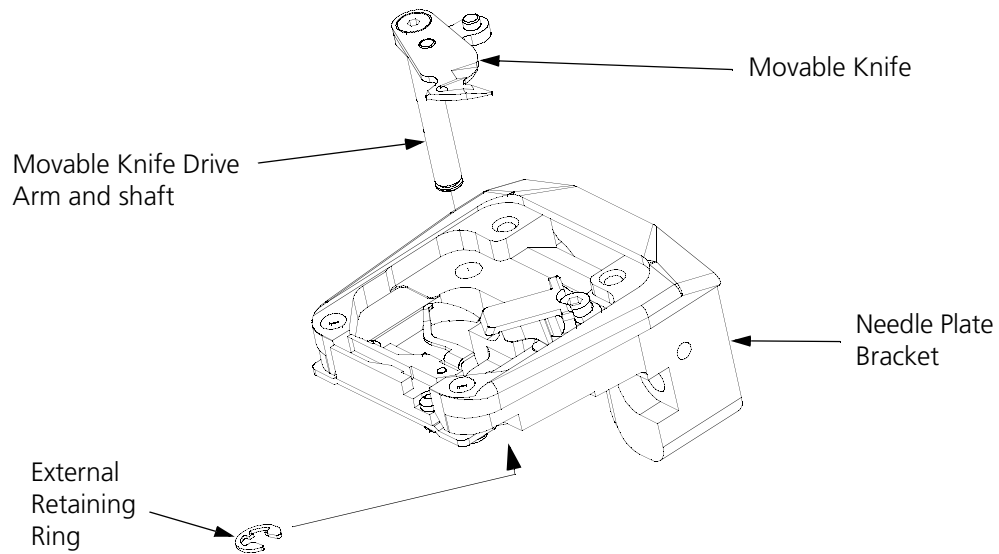
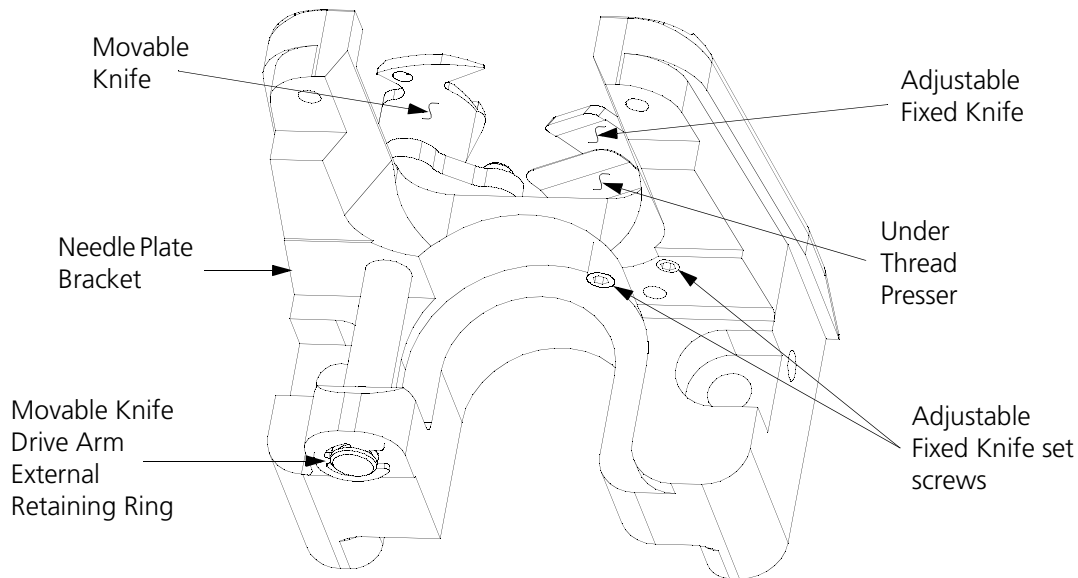

Figure 4-14
Figure 4-20
4. Refer to Figure 4-14 and remove the external retaining ring from the bottom of the movable knife drive arm. (Also see Figure 4-20 for retaining ring reference.)
6. Refer to Figure 4-20 and locate the two small set screws in the bottom of the needle plate bracket directly under the under thread presser.